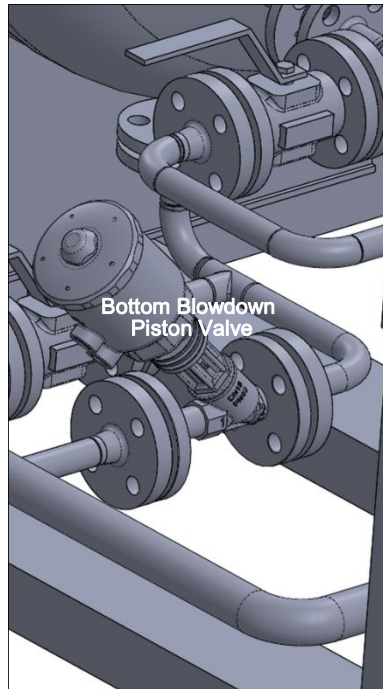

Fig. 23
5.4.11 Piston valves - Figure 23